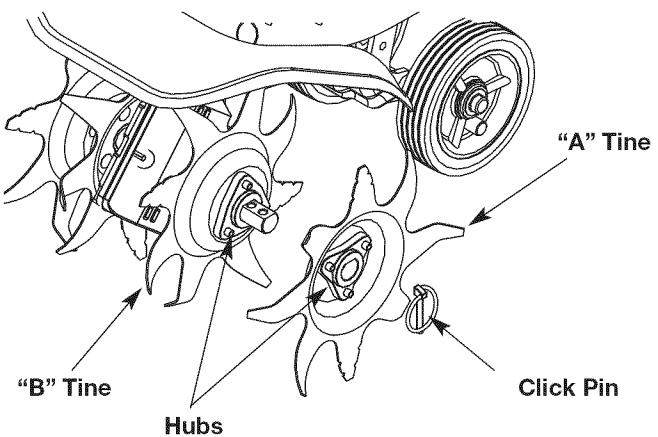

Fig. 14
1. Put the On/Off Stop Control in the STOP (O) position and disconnect the spark plug wire.
2. Remove the click pin from each end of the tine shaft. Slide the tines off of the shaft (Fig. 14).